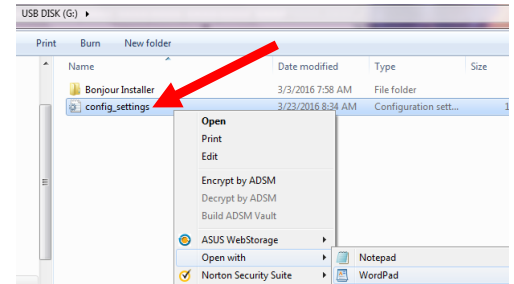

Figure 1
1. On the initial installation, the service tech may have to configure the parameters listed in the config_settings.ini file on the USB drive by opening the file with Notepad++ utility available in Microsoft PC based machine. Right click on the file and Open with Notepad to edit the file (see Figure 1).